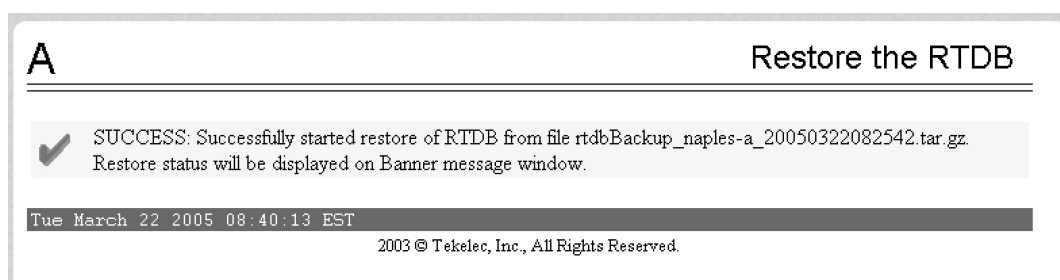

Figure 23: Restore the RTDB - Success
9. When restoring the file is successful, the screen shown in *Figure 23: Restore the RTDB - Success* displays: